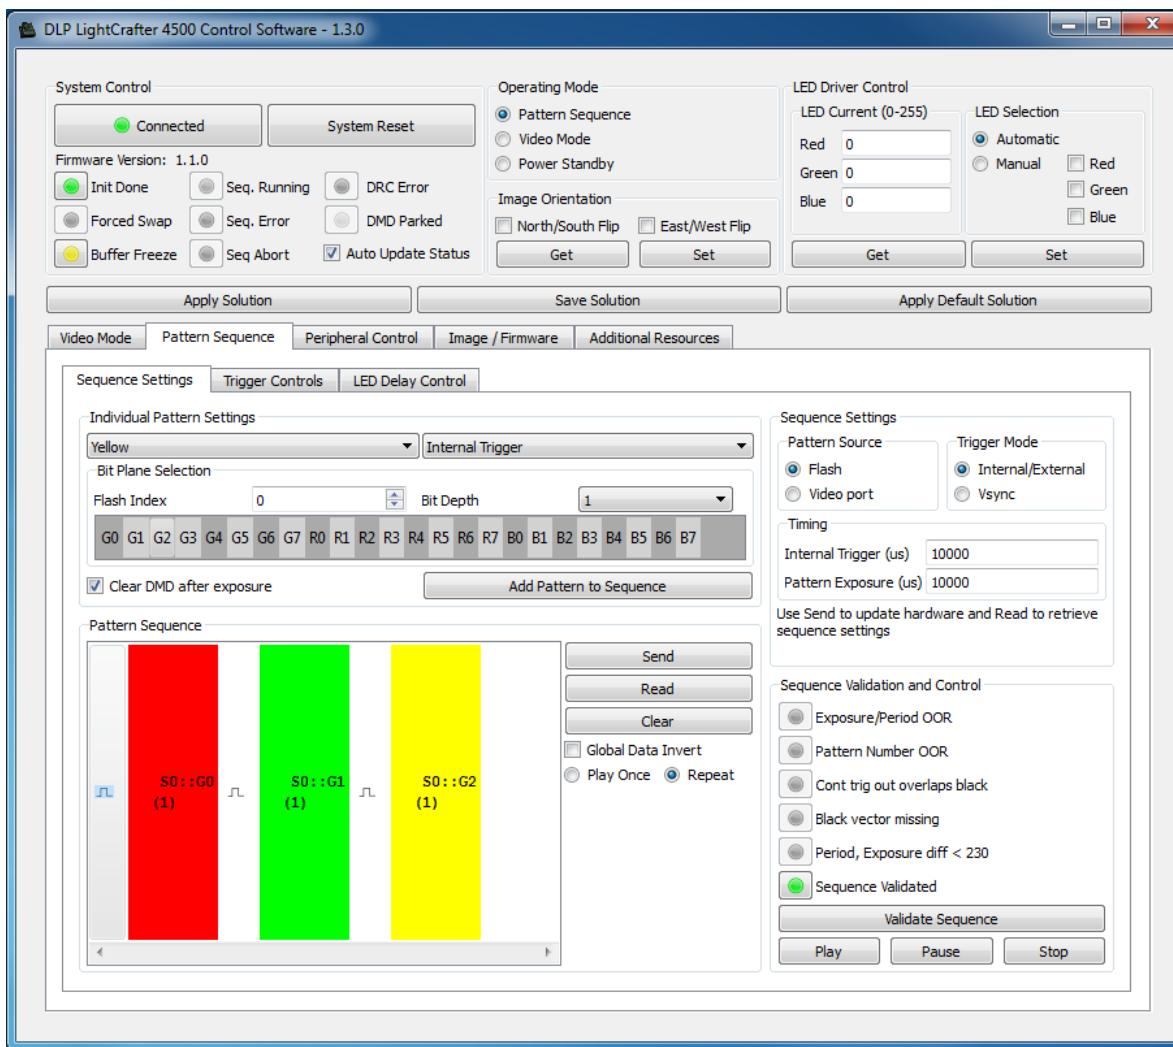

Figure 3-5. DLP LightCrafter 4500 GUI – Pattern Sequence Mode
A pattern sequence is composed of several patterns loaded from flash memory or streamed through the 24-bit RGB video port. Each individual pattern can have a specific set of LEDs illuminating it, a particular bit-depth, and an internal or external trigger. The *Sequence Settings* subtab lets the user define and set all the *Individual Pattern Settings*. The *Trigger Controls* subtab and the *LED Delay Control* subtab set the trigger and LED enable edge timings, respectively. Figure 3-5 shows the DLP LightCrafter 4500 GUI with the *Pattern Sequence* tab selected.
5. If the patterns sequence must be played once, set Play Once in Figure 3-5. This setting will play the number of patterns set in *Trigger Controls* subtab under "Trigger 2 Patterns per pulse". If set to 1, it plays the first pattern in the sequence and stops. If set to 10, it plays the first 10 patterns in the sequence. If the pattern sequence is to continuously repeat, set repeat. Make sure to click the **Send** button after clicking on *Play Once* to download the new settings.
The *Pattern Sequence* section shows the pattern sequence as a set of colored rectangles. The color corresponds to the LEDs used. The entries on the rectangles represent the image source, the bit-plane, and the bit-depth as follows: S0::G0 (1) indicates flash location 0, bit-plane = G0, bit-depth = 1. F2::G5 (3) indicates Frame 2, bit-plane = G5, bit-depth = 3. For example, in Figure 3-5, a pattern sequence of three patterns is displayed. Each pattern is triggered every 100 ms and exposed for 100 ms. The first pattern is a 1-bit green pattern using bit-plane G0 from flash location 0. The second pattern is a 1-bit blue pattern using bit-plane G1 from flash location 0. The third pattern is a 1-bit red pattern using bit-plane G2 from flash location 0.